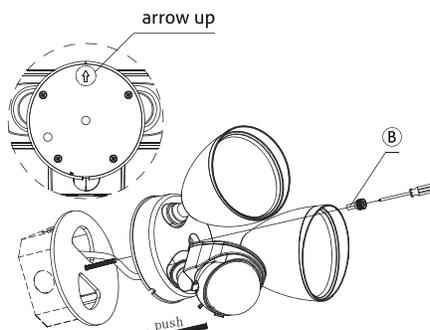

Fig 2-4
4. Remove the rubber cap and fasten the fixture to the bracket with screws provided. Make sure the motion detector head is NOT upside down. Rotate the motion sensor so the controls face detection areas. (Fig 2-4)